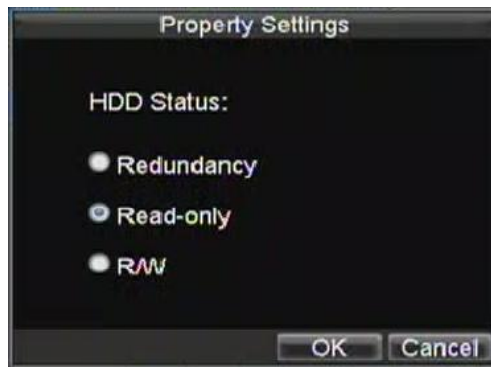

Figure 3. HDD Property Settings Menu
3. Select the Property button to enter the Property Settings menu, as shown in Figure 3.